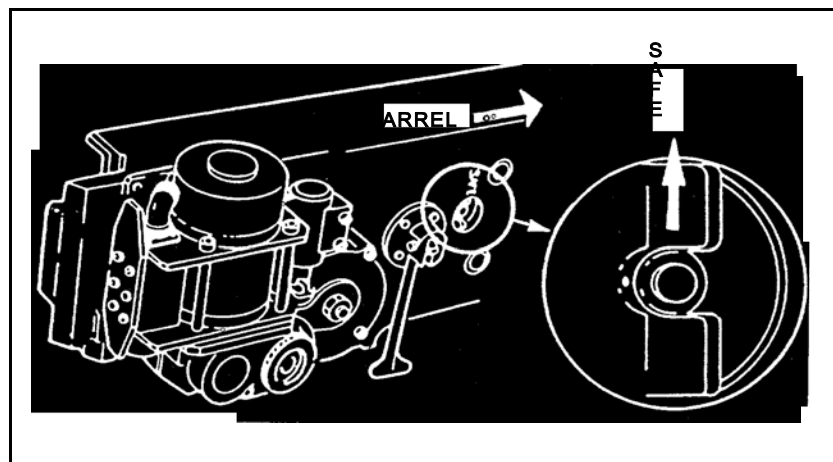

Figure 2. Manual safe handle in the SAFE position.
- d. Place the manual safe handle in the SAFE position (Figure 2).